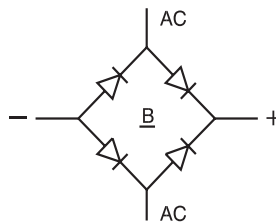

FIGURE 2
2. Surge current waveform per Fig. 3 and derate per Figure 2.